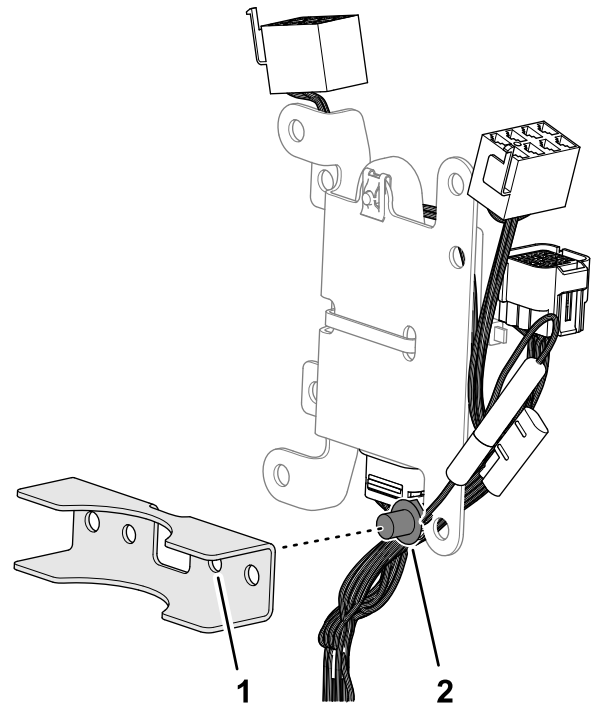

Figure 25
5. Insert push-in anchor of the console harness into the 6.4 mm (1/4 inch) hole in the bracket mount (Figure 25).